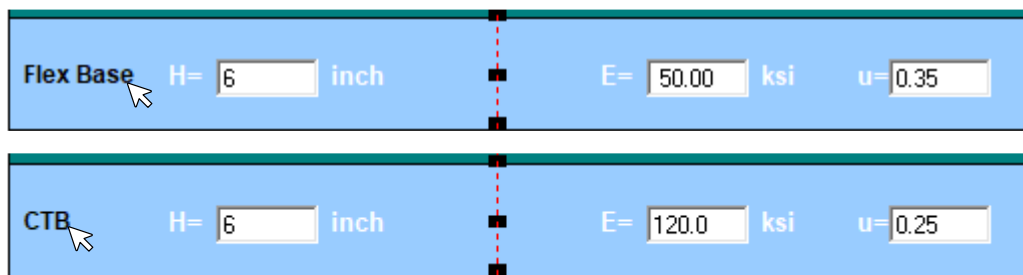

Figure 5. Base Type Active within BASUPT
- **Base Type:** Double-click the base label to switch between Flexible Base and CTB, as illustrated in Figure 5. For different base types, enter the appropriate moduli and Poisson's ratios to adjust the analysis.
After entering all inputs, click “**Update**” to calculate the FWD deflection. The deflection table and deflection bowl at different temperatures will appear on the right side of the screen, as shown in Figure 5. Temperature-dependent deflections are generated when FWD testing is performed on the HMA layer due to its viscoelastic property. When testing directly on flexible base or treated base (HMA thickness is set to 0), the deflection at each geophone remains the same across all temperatures. Additionally, a temperature-based R1 and R2 table at the bottom left displays deflection values ranging from 30°F to 120°F, which are used for base support validation in the field.